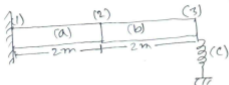

Figure 5
- 6 a) Figure 5 shows a 2-element beam but replacing a pin support with a spring. A downward force of 60 kN has been applied at node 3. Property values are $E = 210 \text{ GPa}$, $I = 2 \times 10^{-4} \text{ m}^4$, $k = 200 \text{ kN/m}$. Compute Deformations at each node of the assembly. (10)